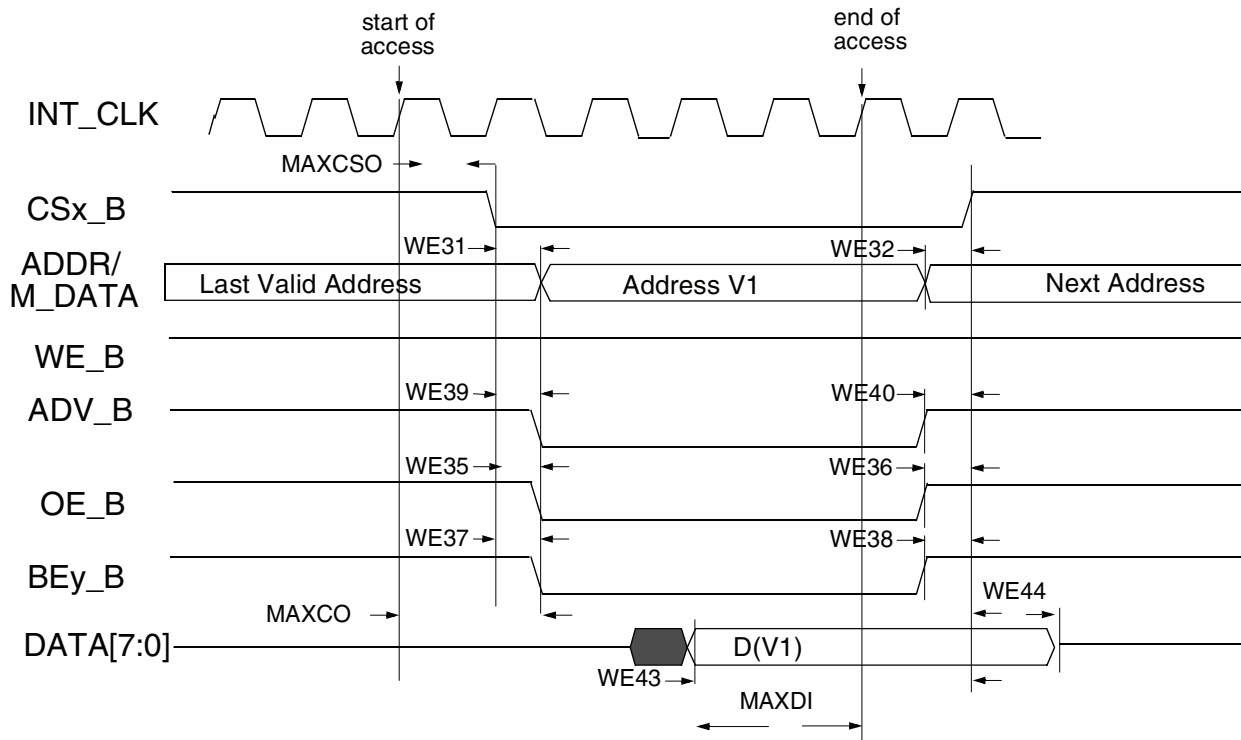
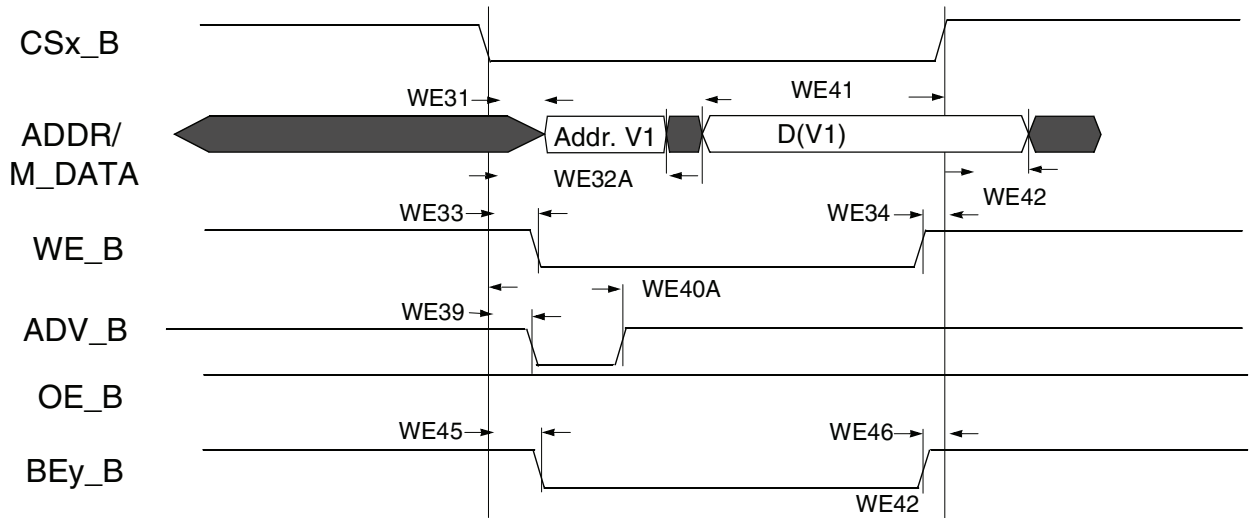
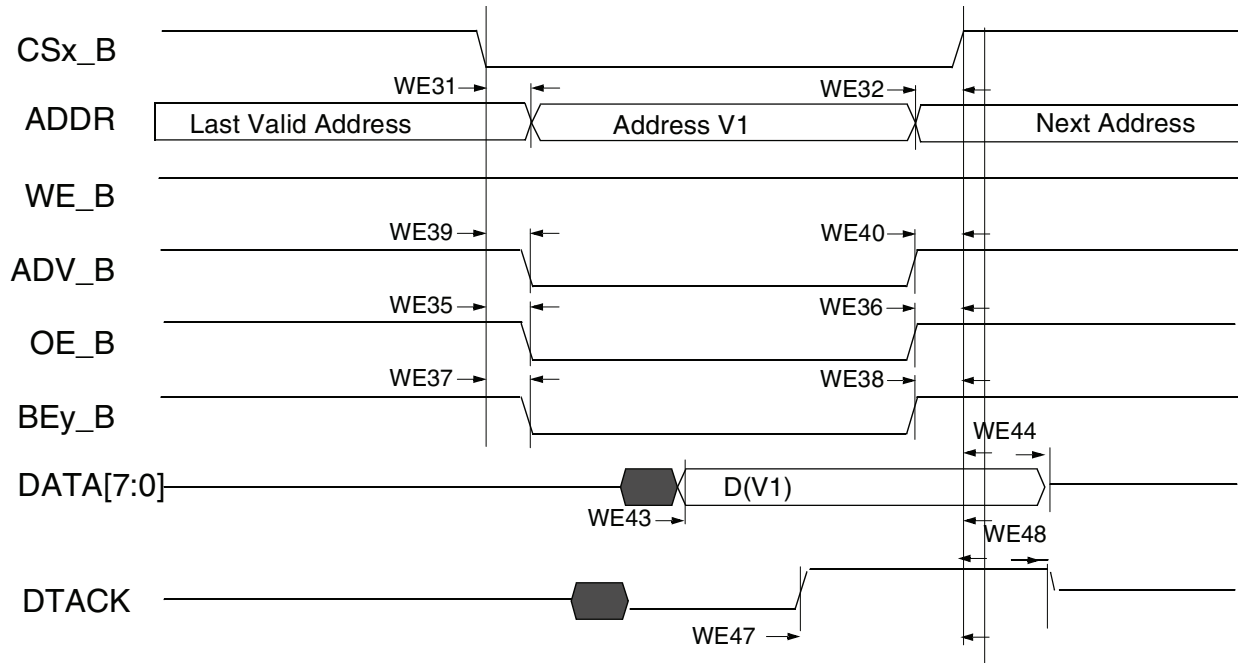

Figure 18. Asynchronous Memory Read Access (RWSC = 5)
Figure 21. Asynchronous A/D Muxed Write Access
Figure 22. DTACK Read Access (DAP=0)
Figure 18 through Figure 22, and Table 44 help you determine timing parameters relative to the chip select (CS) state for asynchronous and DTACK EIM accesses with corresponding EIM bit fields and the timing parameters mentioned above.
Asynchronous read & write access length in cycles may vary from what is shown in Figure 18 through Figure 21 as RWSC, OEN & CSN is configured differently. See the *i.MX 6Solo/6DualLite Reference Manual (IMX6SDLRM)* for the EIM programming model.